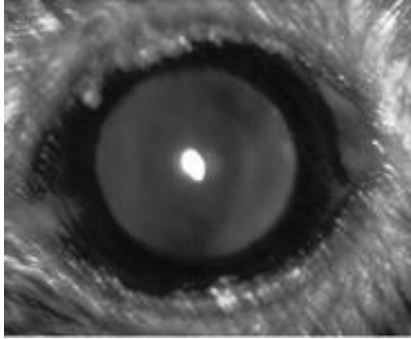

Fig. 1 Typical required dilation.
- a) **Proper dilation:** Pupil size of 1mm or more in mouse; 2.5mm or more in rat are encouraged for best resolution and contrast. See last page, Fig. 1 for typical dilation.